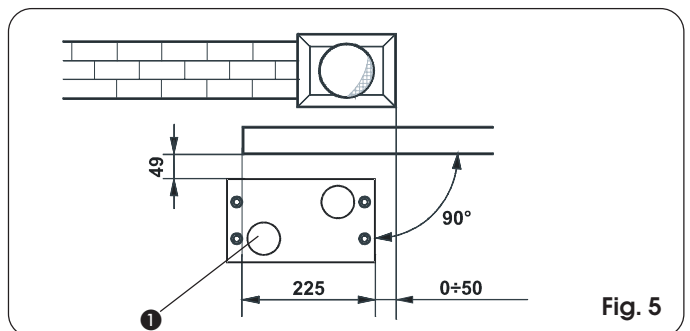
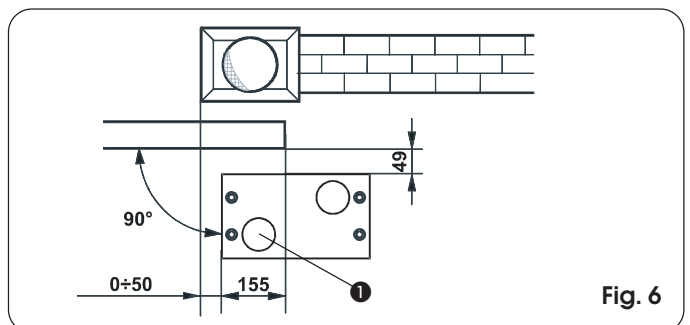

Fig. 5
Fig. 6
- 2) The foundation plate must be located as shown in Fig. 5 (right closing) or Fig. 6 (left closing) to ensure correct meshing between rack and pinion.